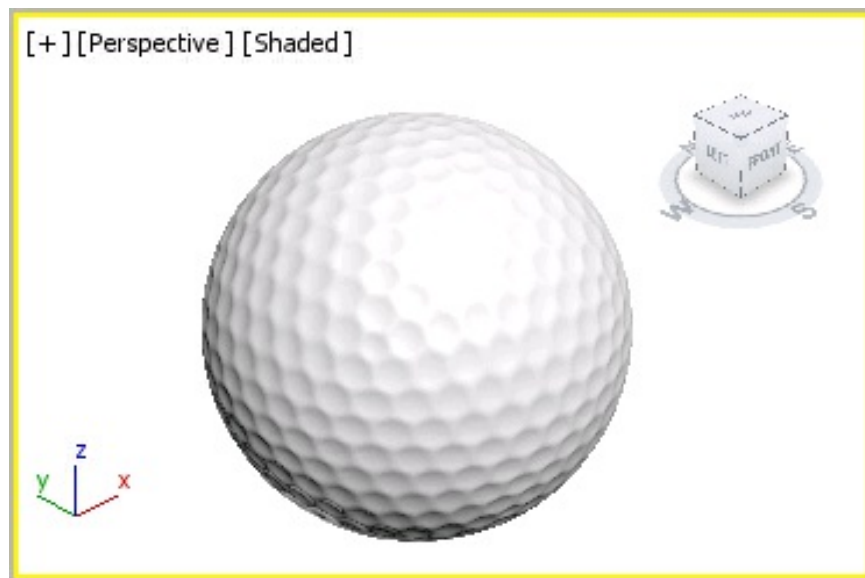

Figure 8-120 The golf ball geometry after applying the Mesh Smooth modifier
13. Select the **MeshSmooth** modifier from the **Modifier List** drop-down list at the top of the modifier stack in the Modify panel. Use the default settings for the **MeshSmooth** modifier; the *golf ball* is smoothened, refer to Figure 8-120.